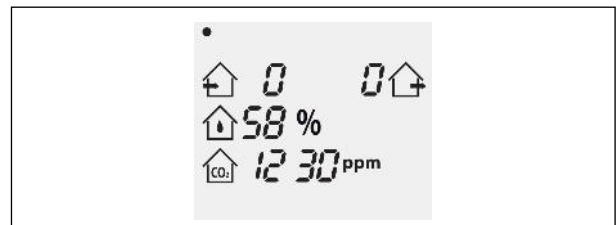

Fig. 30: Ventilation unit in Standby mode
- The current ventilation mode is ended. The ventilation levels for supply air and extract air are set to 0 (see Fig. 30).